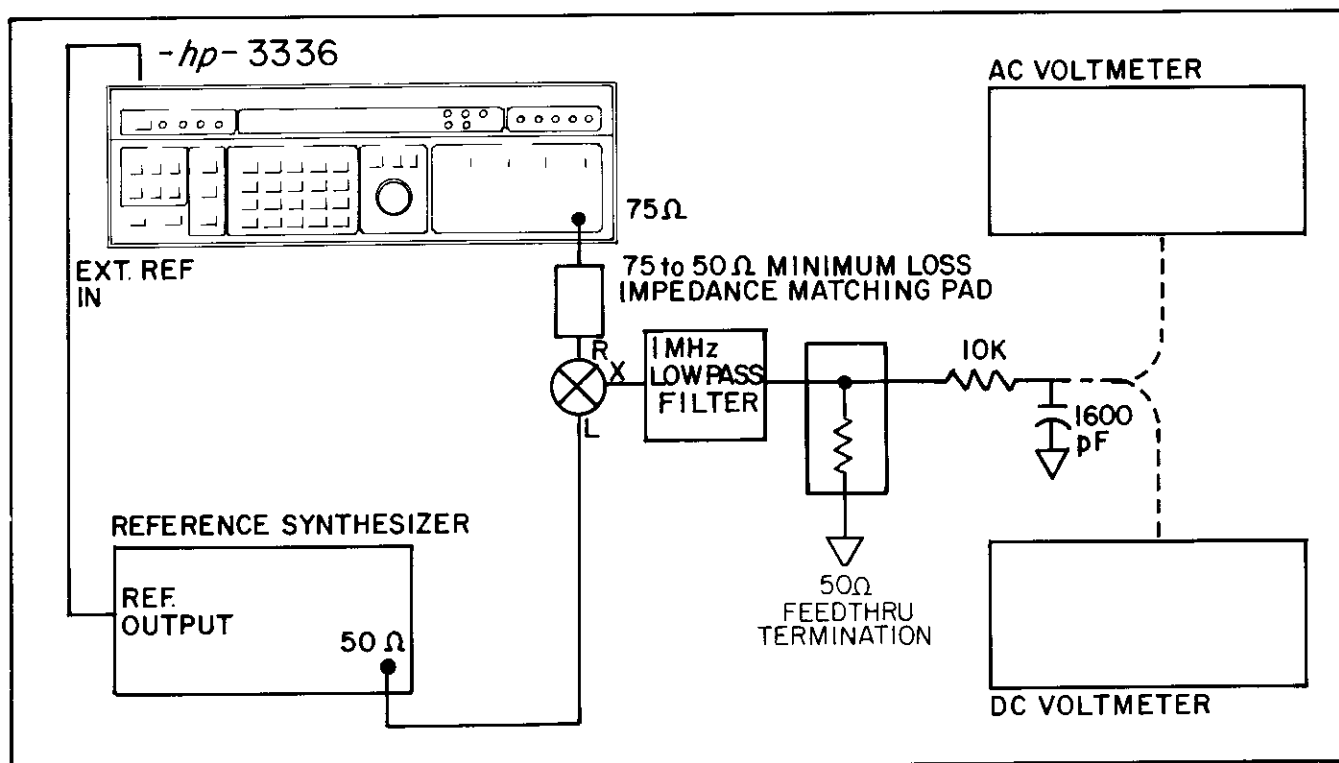

Figure 4-14. Integrated Phase Noise Equipment Set Up.
a. Connect the equipment as shown in Figure 4-14. Make sure that the frequency references of the 3336 and the reference synthesizer are locked together.